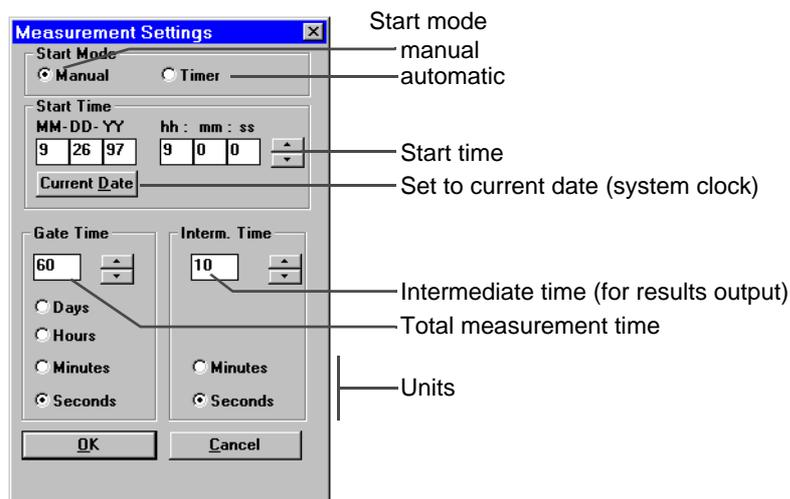

Fig. O-25 The “Measurement Settings” dialog window
1. Open the “Measurement Settings” dialog (see Fig. O-25).